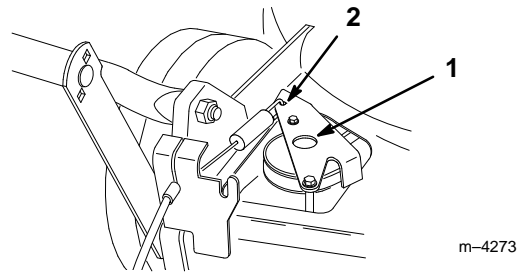

Figure 16
3. Push the drive bracket down until it contacts the mower, then hold it in place (Fig. 16).